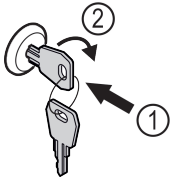

Fig. 123
- ▶ Insert the key. Fig. 123 (1)
- ▶ Turn the key clockwise by 90°. Fig. 123 (2)